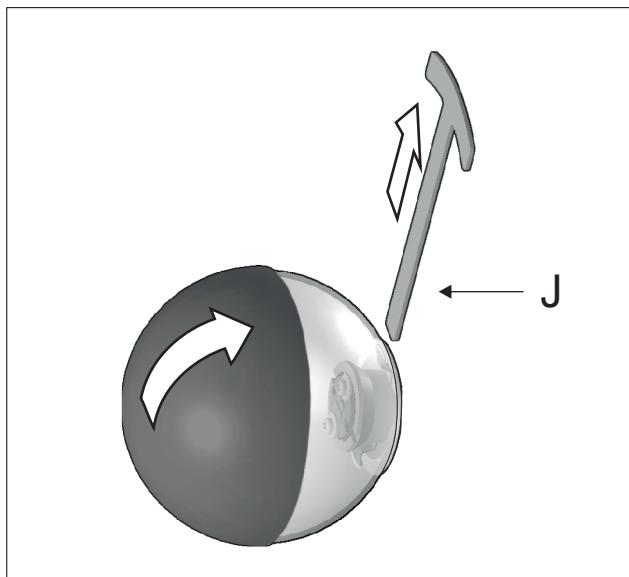

Figure 9b
Situate the screen in a horizontal position and remove the tool (J) slowly. Figure 9b.